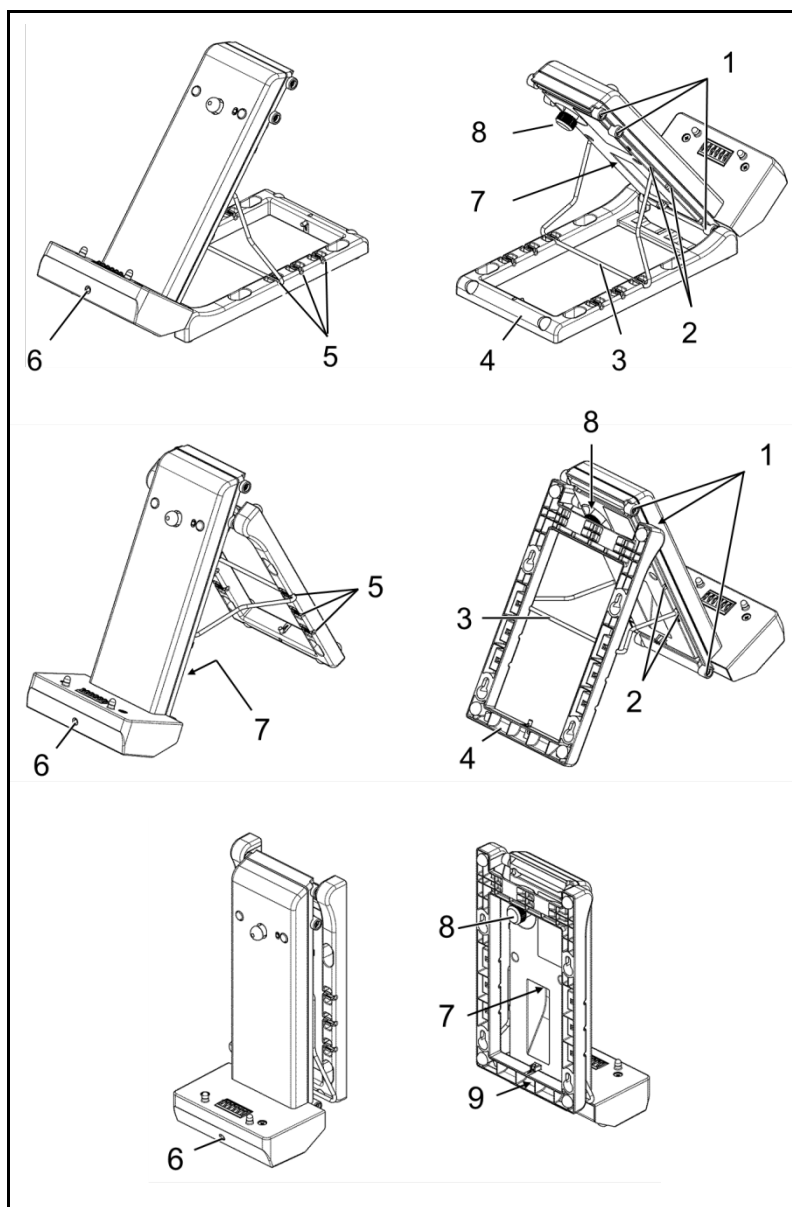
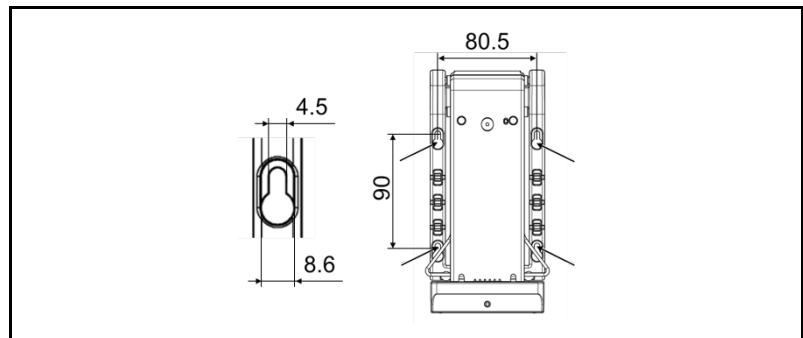
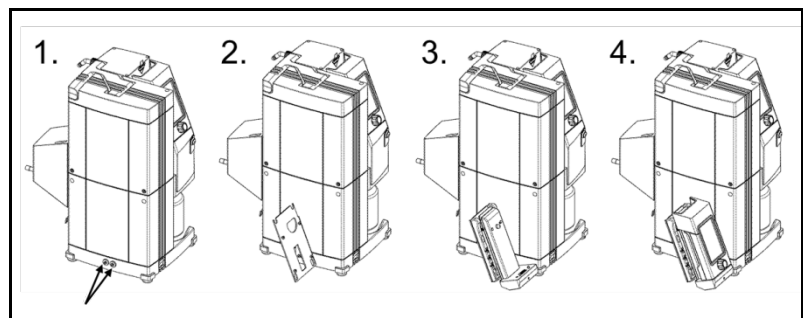

Fig. 6: Charging station for hand terminal
Fig. 7: Charging station fixed to a wall
Fig. 8: Attaching the charging station to the SCC 950 vacuum pump system
- Set up the charging station Set up the charging station for hand terminal 2 (see Fig. 6, page 20).
- 1.) Bench version 1 (see Fig. 6, top)
- 2.) Bench version 2 (see Fig. 6, center)
- 3.) Wall installation (see Fig. 6, bottom)
- 4.) Attachment to the vacuum pump system (see Fig. 6, bottom)
The green LED (Fig. 6/6) indicates that the hand terminal is charging (LED lit) when it is placed on the charging station and the station is connected to the power supply via the power supply unit.
1.) Bench version 1 (Fig. 6, top)
The angle of the charging station can be adjusted by the positions of the foot and the wire support (mounting options, see Fig. 6).
2.) Bench version 2 (Fig. 6, center)
3.) Wall installation (Fig. 6, bottom)**Requirements**
- Fixing screw (Fig. 6/9) tightened
- Hand terminal on charging station and fixed in place with the transport holder (Fig. 6/8) (optional)
1. Hang the charging station on the wall (hanging points, see arrows in Fig. 7).
4.) Attachment to the vacuum pump system (Fig. 6, bottom)**Requirements**
1. Loosen the two Allen screws (Fig. 8/1.) so that the bracket can be mounted.
2. Mount the enclosed bracket (Fig. 8/2.).
4. Hang the charging station on the four screws in the bracket (Fig. 8/3., hanging points, see arrows in Fig. 7).
6. Place the hand terminal on the charging station (Fig. 8/4.) and fix in place with the transport holder (Fig. 6/8) (optional)